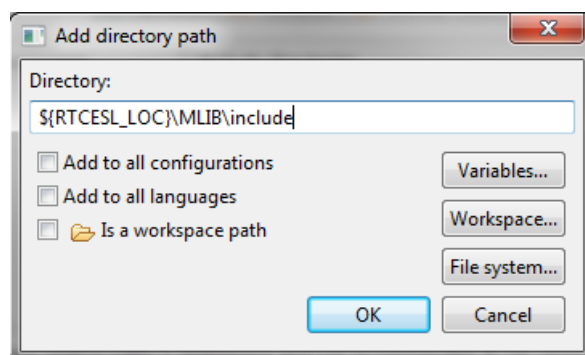

Figure 1-10. Library include path addition
16. Click the Add... button on the right, and a dialog appears. See Figure 1-10.